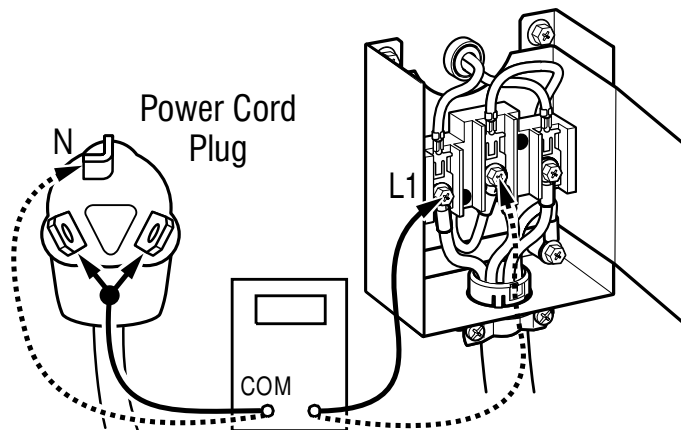

Figure 2
3. With an ohmmeter, check for continuity between the neutral (N) terminal of the plug and the center contact on the terminal block. See figure 2.
4. In a similar way, check which terminal of the plug is connected to the left-most contact on the terminal block and make a note of it. This will be L1 (black wire) in the wiring diagram. Follow the same procedure for L2 (red wire). See figure 2.